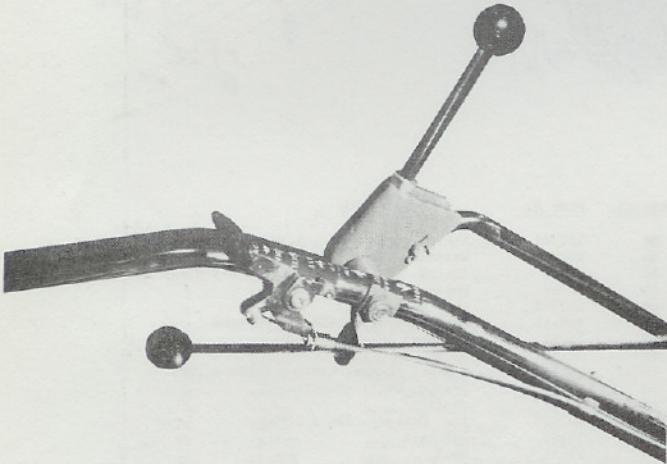

fig 2
1. Fasten control rod guide (item 81) to the left handlebar of tractor by removing the nut securing bolt of Hi/Lo lever. Slide control rod guide over bolt and replace nut removed. The control rod guide is concaved to fit the shape of handlebar. See fig. 2.
2. Slide control rod through grommet of rod guide and screw knob on rod. See fig 2.